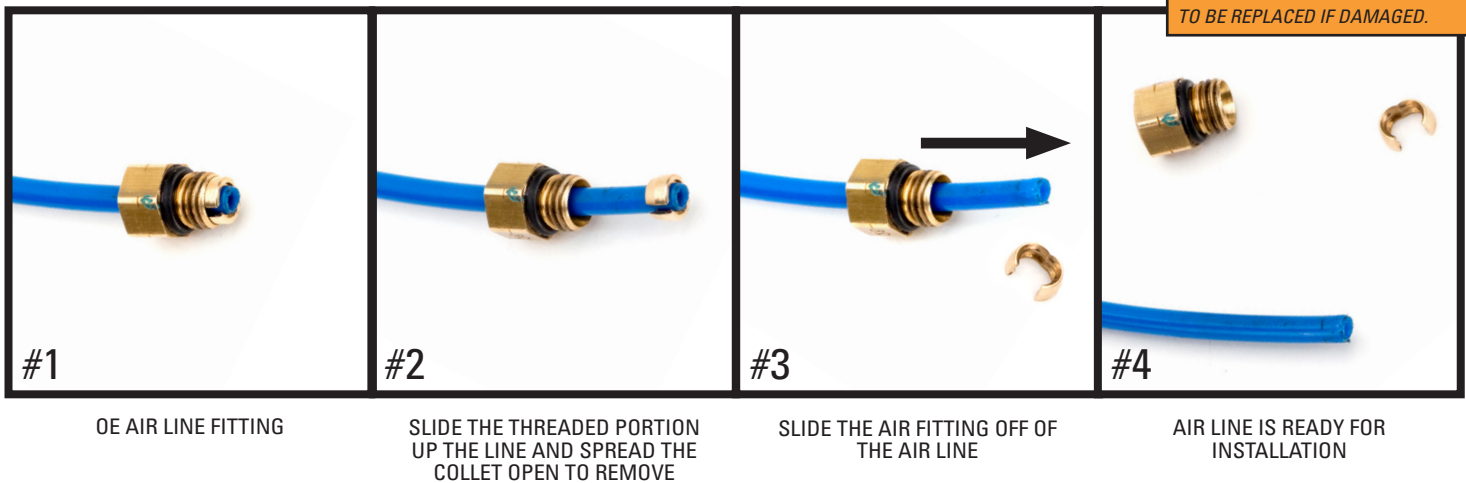

FIGURE 23
2. REMOVE EXISTING VOSS FITTING FROM THE VEHICLE AIR LINE AND DISCARD. USE THE FIGURE BELOW AS AN EXAMPLE. (FIGURE 23)